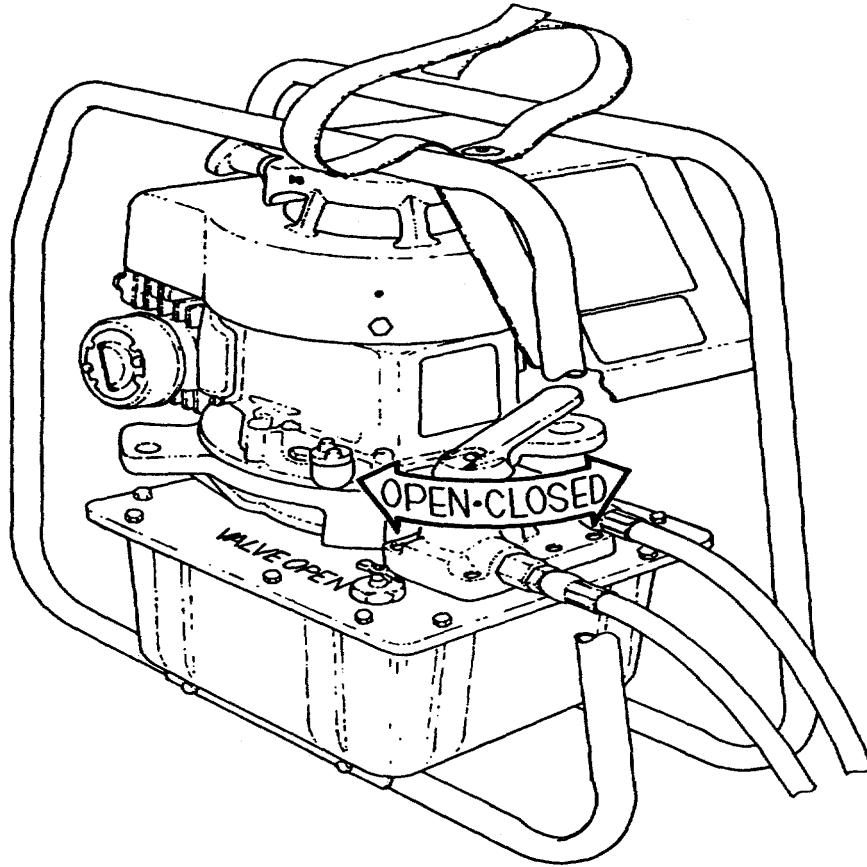
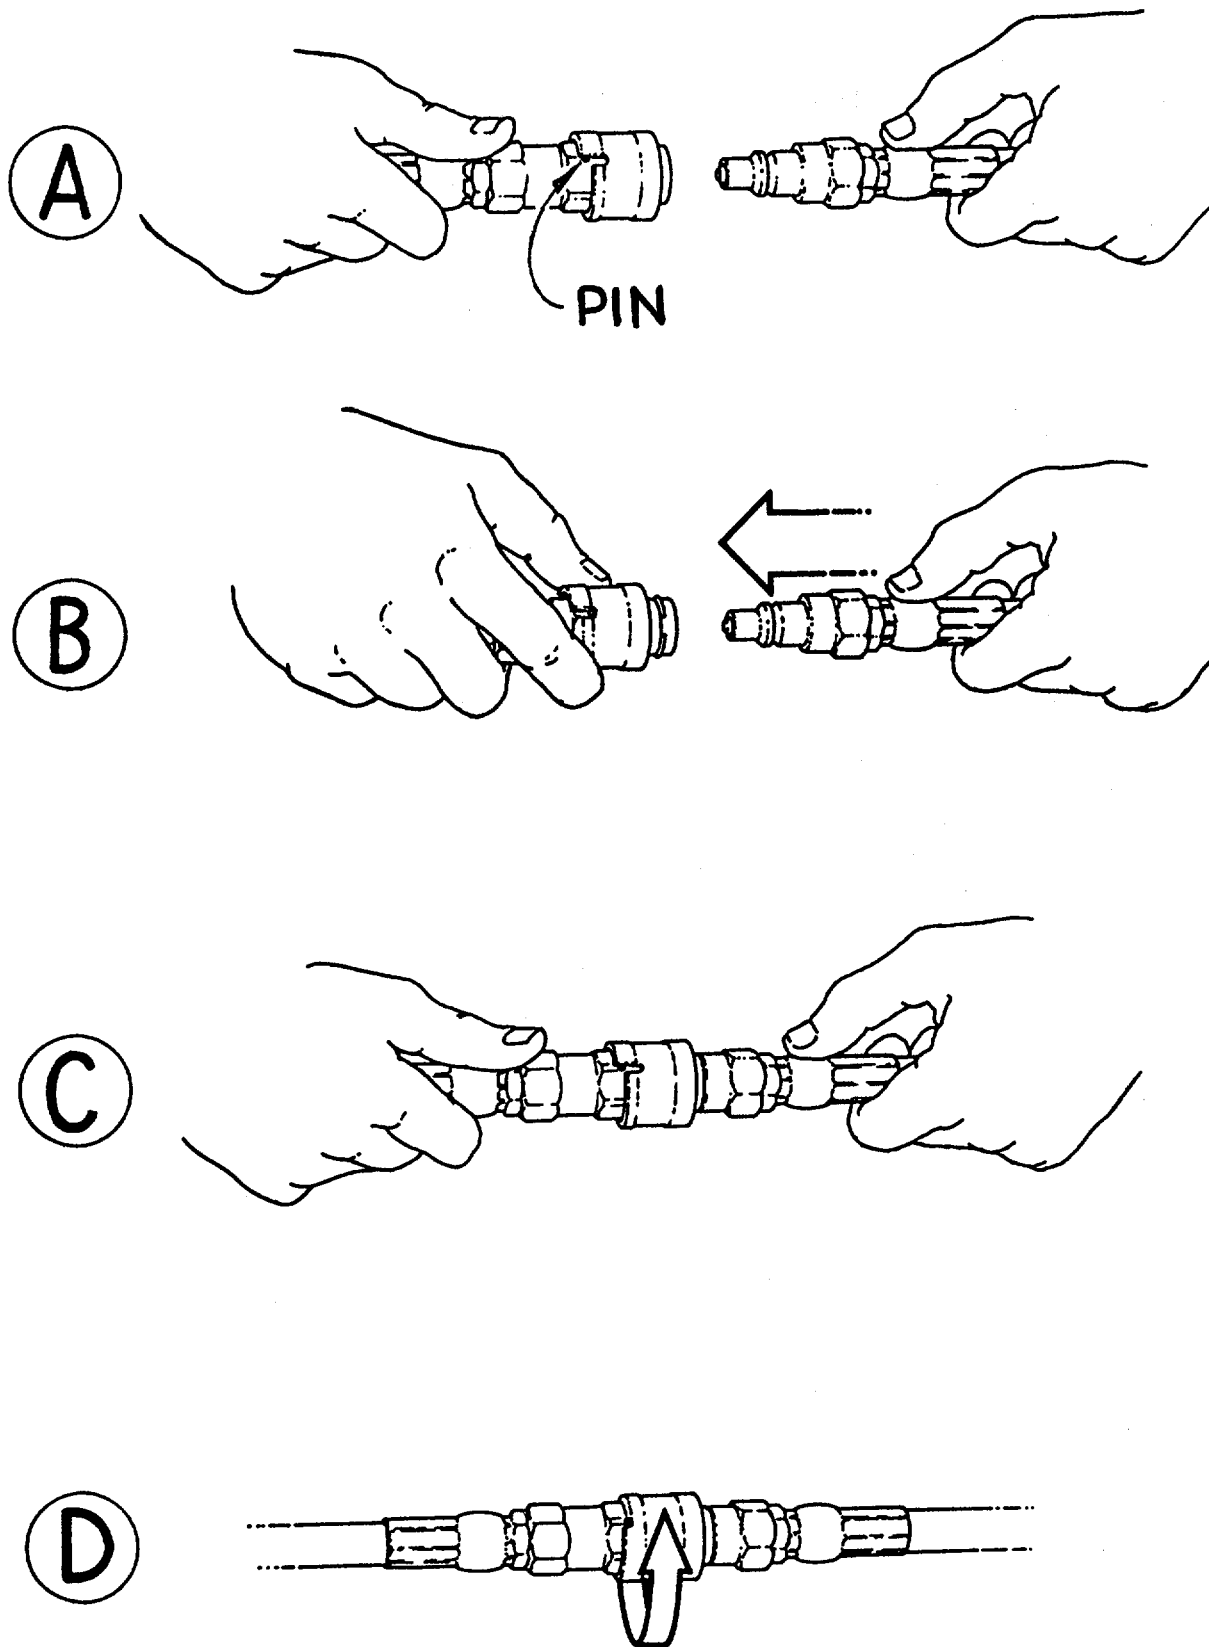
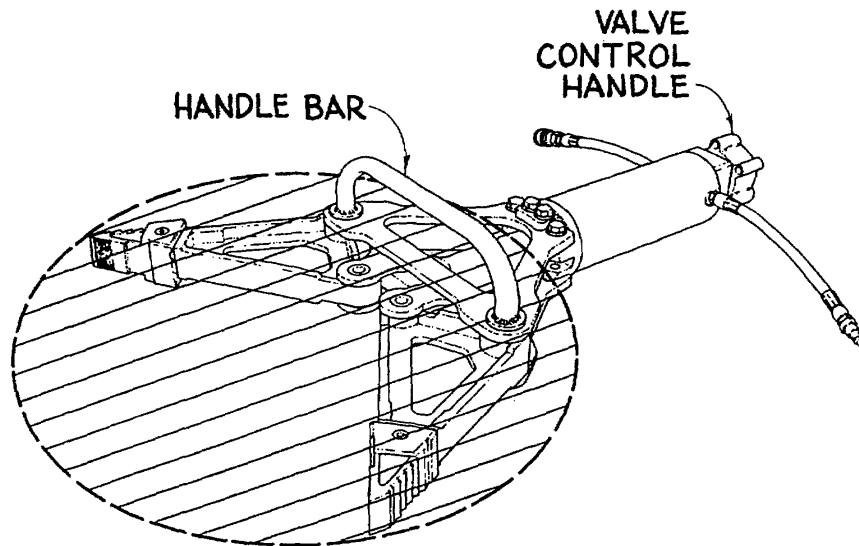
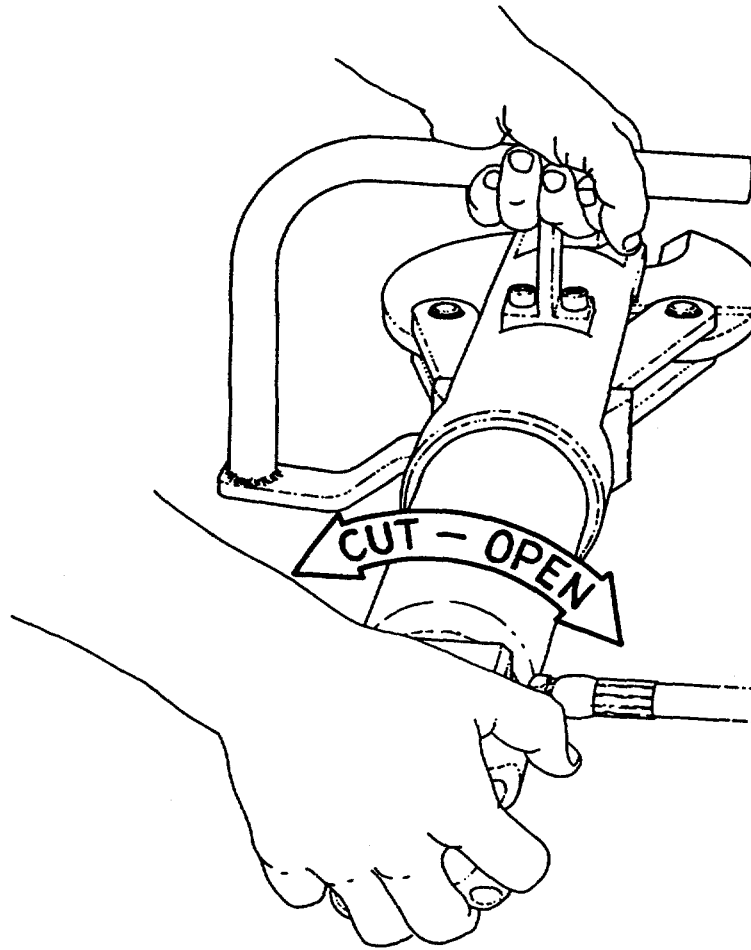

Figure 2-3.
Figure 2-4.
Figure 2-5.
Figure 2-10.
2.1.2. Turn the SELECTOR VALVE to the "CLOSED" position. (Figure 2-3).
- 2.1.5. Connect the HOSE ASSEMBLY to the SPREADER or CUTTER. For proper connection of the fittings, the female coupler must have the small pin on the side of the collar lined up with the groove (Figure 2-4, A), then pull back on the collar. (Figure 2-4, B). Slide the male fitting into the female receiver (Figure 2-4, C). Let the collar spring into the lock position. Twist the collar ½ turn. (Figure 2-4, D). For removal, reverse procedure.
- 2.1.6. Once the SPREADER or the CUTTER TOOL is connected to the POWER PACK, turn the SELECTOR VALVE to the "OPEN" position, hydraulic pressure is now available to tool operation. (Figure 2-3).
- 2.1.7. After you finish with the selected tool and you are ready to exchange or remove the tool, be sure the SELECTOR VALVE is in the "CLOSED" position. (Figure 2-3). Turn the ENGINE THROTTLE CONTROL to the "OFF" position. (Figure 2-1). Disconnect the hoses at the tool. (Figure 2-4). After each use, wipe with a clean rag. (For Storage See Chapter 4).
- ! NEVER PUT HANDS OR OTHER OBJECTS IN THE AREA OF THE LINKAGE ASSEMBLY. (FIGURE 2-5).
- 2.2.1. Connect the HOSE ASSEMBLY as noted in the POWER PACK instructions. (Paragraph 2.1, Figure 2-4).
- 2.2.2. With the POWER PACK engine running, move the SELECTOR VALVE to the "OPEN" position. (Figure 2-4). The CONTROL VALVE should be opened and closed (2) times prior to using the tool. (Figure 2-5). This is to remove any trapped air that might occur in the system.
- 2.5.1. Connect the HOSE ASSEMBLY as noted in the power pack instructions. (Figure 2-4).
- ! WHEN USING THE CUTTER TOOL, KEEP ONE HAND ON THE HANDLE BAR AND THE OTHER ON THE VALVE CONTROL HANDLE (FIGURE 2-10).
- 2.5.2. With the POWER PACK engine running and the SELECTOR VALVE to the "OPEN" position (Figure 2-3), turn the CONTROL VALVE HANDLE to OPEN and CLOSED POSITION (2) times prior to using the tool. (Figure 2-10). This is to remove any trapped air that might occur in the system.
- 2.5.4. Always have one hand on the GRAB BAR and the other on the CONTROL VALVE HANDLE. (Figure 2-10 Ref). If the tool starts to twist and it cannot be properly held in place to cut the part straight, open the blades up and retry cutting.